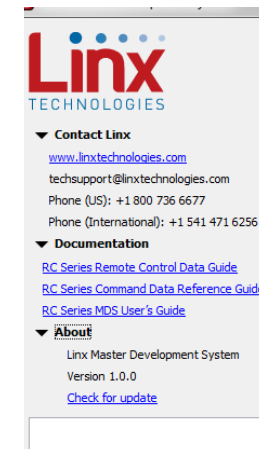

Figure 15: The Master Development System Software Additional Information display on the programming dock.
1. Clicking the Contact Linx, Documentation and About labels on the left side expands them to show additional information and links to the latest documentation. This is shown in Figure 15.